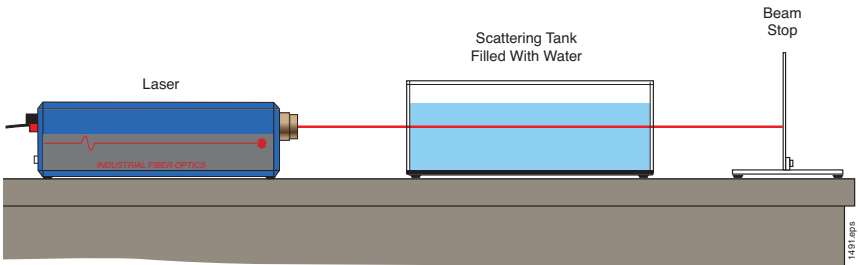

Figure 1. Side view of the laser, scattering tank of water and beam stop.
4. Position the laser, the scattering tank and the laser beam stop as shown in Figure 1.
6. Make sure the laser's ON/OFF switch (SW) is in its OFF position. (The push button should be in its extended position.)